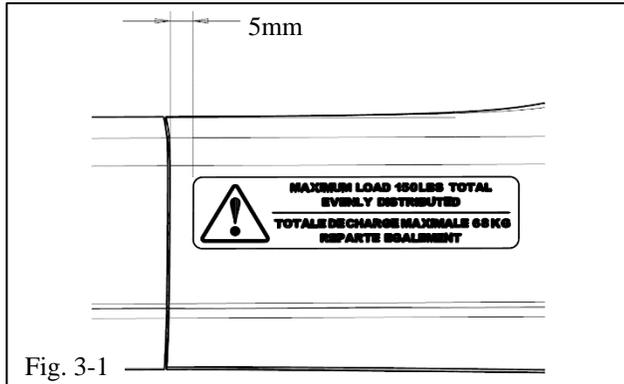

Fig. 3-1
- (a) Carefully open the hardware bag and remove the load labels from the hardware bag (Fig. 3-1).